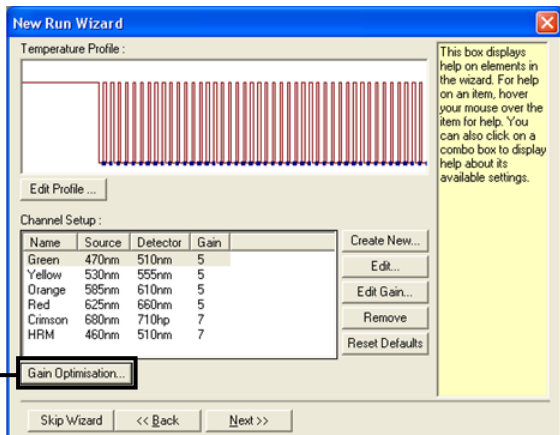

Figure 10. Gain optimization (1).
12. In the next dialog box, click **Gain Optimization** (Figure 10).